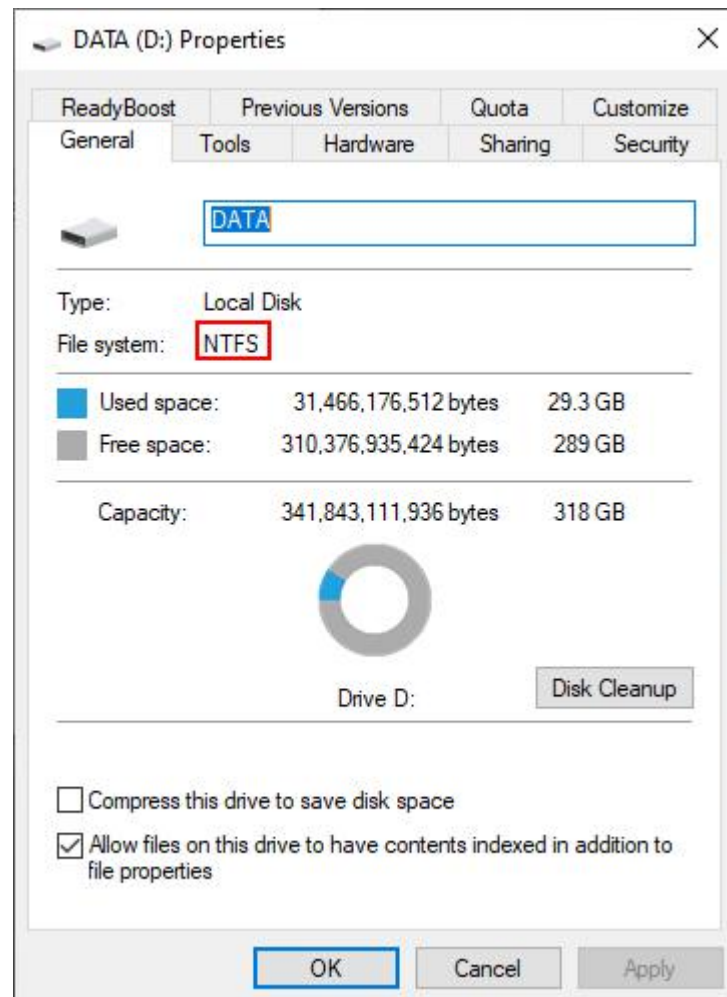

Figure 3.3.1 Hard disk file system window
- Notes:** The FAT file system has a high probability of errors during power failure. When installing software, you should install it into NTFS file system. Otherwise, when the power is cut off or the system is shut down abnormally, the entire directory may be wrong, which may cause errors in the steps files, system files or data files. View NTFS system property display, please refer to the figure 3.3.1.